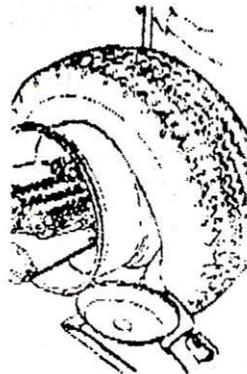

Fig2.4
- 5) Move the tool arm to the inside, pull the edge of the inner tube, also move it to the outside of the rim. Turn the tire , until the edge of inside separated from the rim.(Fig2.4)